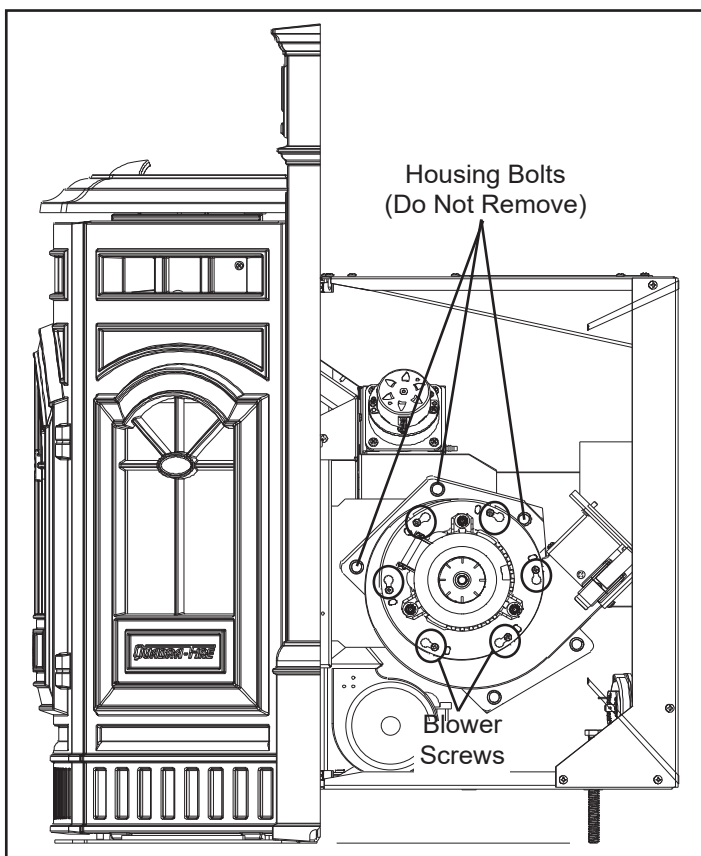

Figure 26.1
- Remove blower mounting screws (not housing bolts), **Figure 26.1**, from blower housing and remove blower. The replacement blower is shipped with a housing. If you do not need the housing, discard it. If you do need to replace the housing you will also need to replace the gasket. See Service Parts List for the part number.